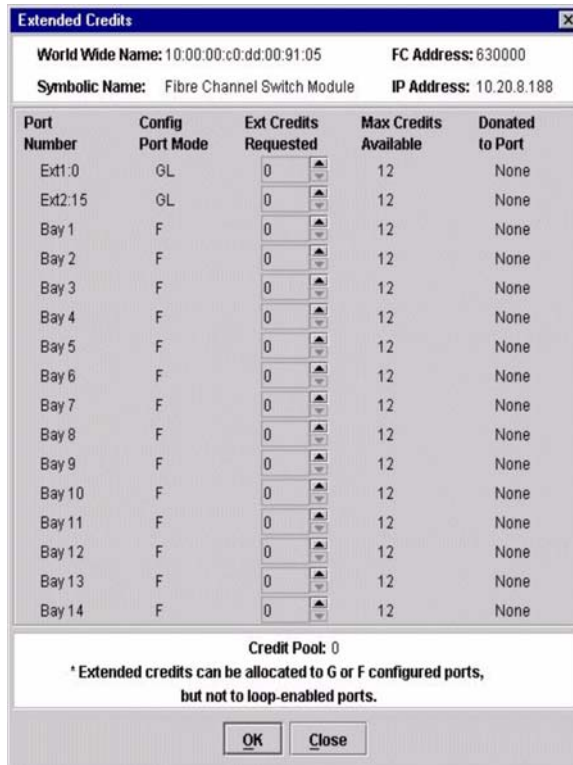

Figure 20. Extended Credits window
2. In the Faceplate window, select the recipient port. Recipient ports must be external ports configured as G\_Ports or F\_Ports. Click **Port>Extended Credits**. The Extended Credits window opens as shown in Figure 20